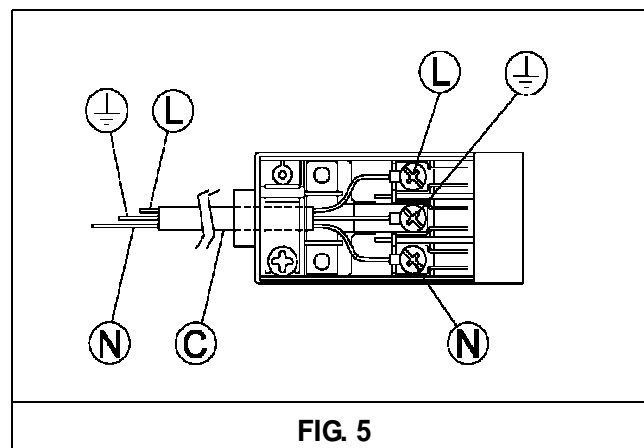

FIG. 5
- Fit the wires following Fig. 5, noting the following correspondences: